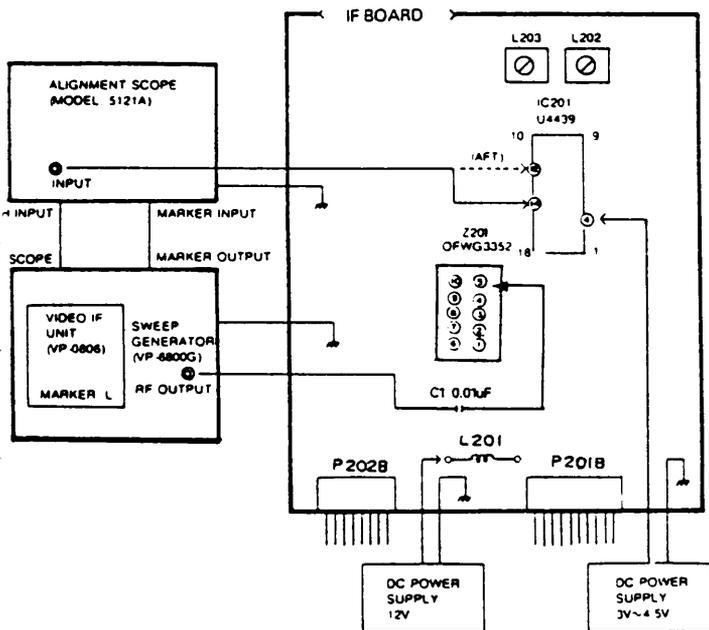

Fig 1. Connection Diagram of the Instruments
- 4) With the TV receiver turned off, apply 12 VDC to the left lead of L201 and the AGC Bias voltage to the pin4 of IC201. (Fig. 1).
- 3) With the TV receiver turned off, apply 12VDC to the left lead of L201 and the AGC Bias voltage to the pin4 of IC201. (Fig. 1).